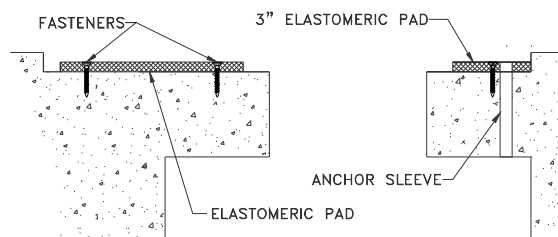

Figure 12
**STEP 24.** Place the pad back into its installed position. Ensure that mastic has been applied to the top surface of water barrier. Attach the pad to the concrete using the fasteners provided by the factory (see Figure 12). Ensure that the heads of the fasteners are flush with or below the top surface of the pad. Repeat the applicable procedures in Step 18 through Step 24 for each successive pad section.